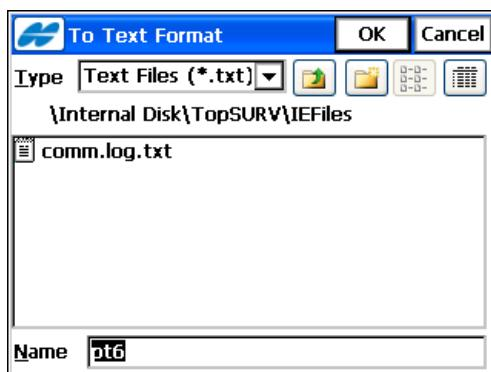

Figure 4-15. Select the File
- **Next** – opens the **To Text Format** screen (Figure 4-15).
On the **To Text Format** screen (Figure 4-15), select a destination directory and the name of the created file.